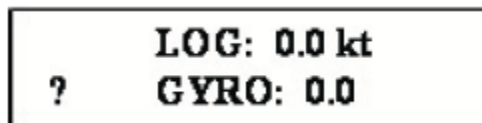

Figure 6 – Display mode of current course and speed data from gyrocompass and log
2.3.1 As soon as power is supplied, the Product transfers to the mode of course and speed data display; herewith gyrocompass and log readings are displayed as zeroes, see Figure 6. Signal is absent on the converter’s output. The Product requires an input of initial course values and gyrocompass and log types.